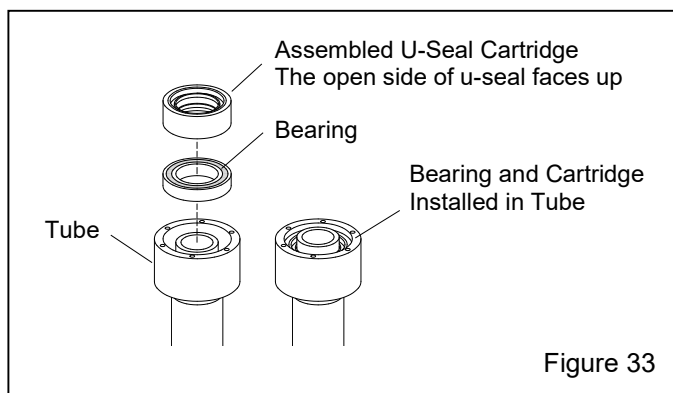

Figure 33
9.4.1 Place the assembled tool on a bench with the rear of the tube casing facing up, as shown in Figure 33.